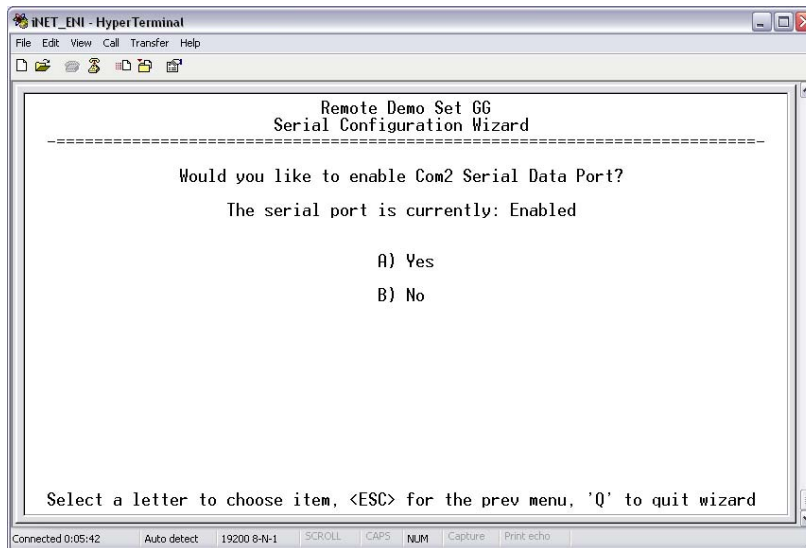

Figure A-17. Enable COM2 Data Port
6. Press **A** to enable the iNET/ENI's COM2 port. See Figure A-17.